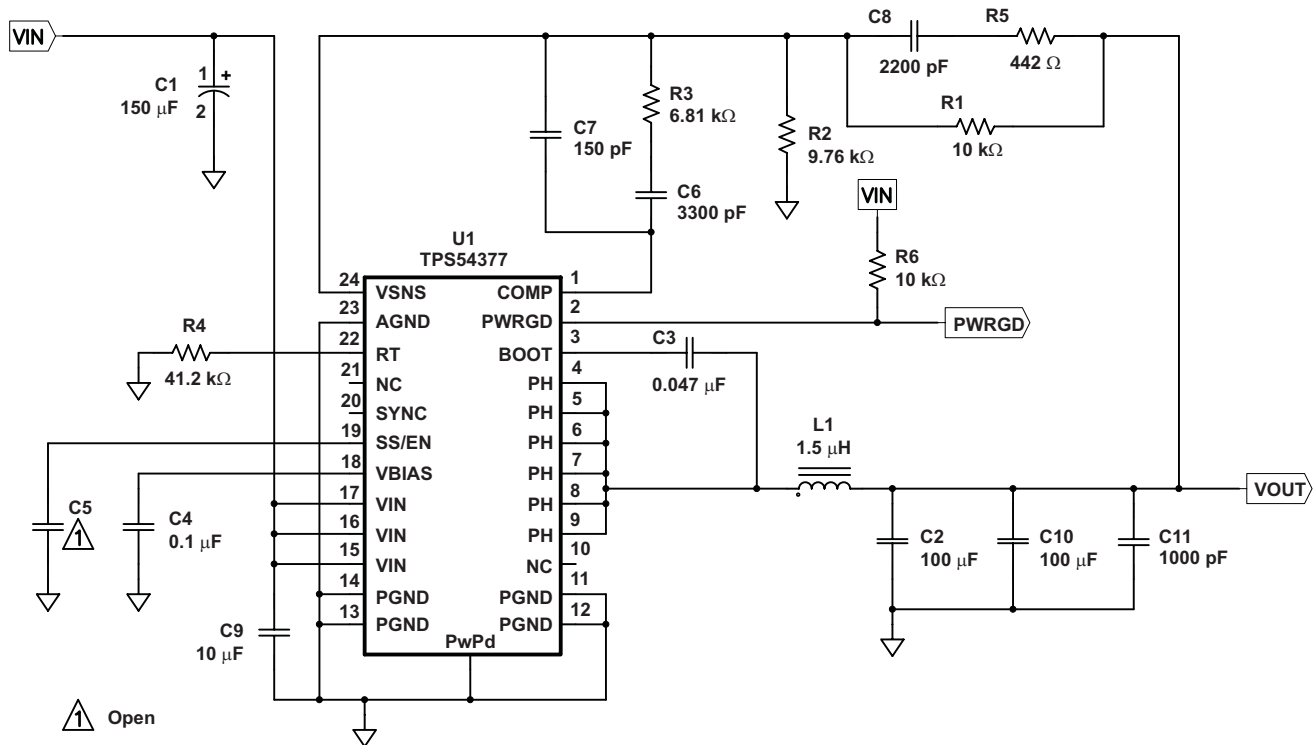

Figure 10. TPS54377 Schematic
(3) Specified by the circuit used in Figure 10.
Figure 10 shows the schematic diagram for a typical TPS54377 application. The TPS54377 (U1) provides up to 3 A of output current at a nominal output voltage of 1.8 V. For proper thermal performance, the power pad underneath the TPS54377 integrated circuit needs to be soldered well to the printed circuit board. The TPS54377 can be evaluated by replacing the TPS54317 on the TPS54317 EVM.